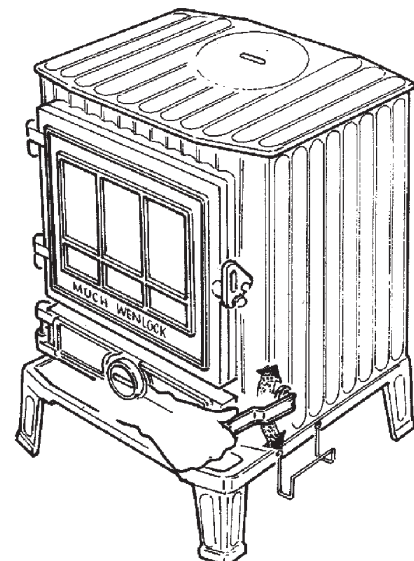

Fig. 3
- (a) Riddle the bottomgrate by engaging the operating tool in the right hand side square socket shaft - Fig. 3 and rotate/reverse it sharply for about 10 strokes by which time the fire should be free of ash. Riddle the grate at least twice daily (more often if required) and always before re-fuelling.